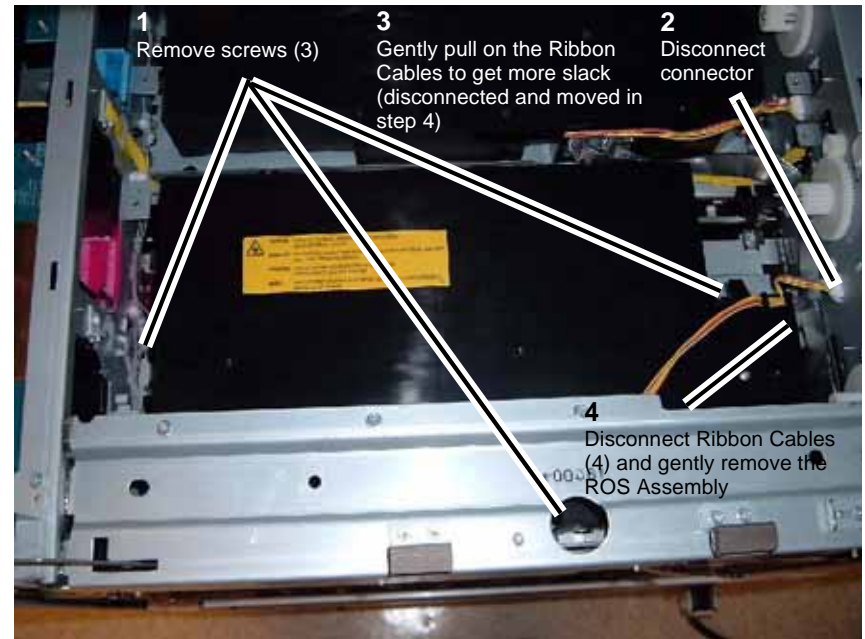

Figure 5 Removing the ROS Assembly (Y, M)
9. Remove the ROS Assembly (Y, M) (Figure 5).